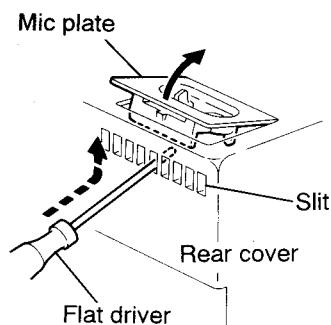

Fig. 7-2
3. Remove the two screws (**6**) retaining the front panel ass'y and main amplifier and power source P.C. board as shown in Fig. 7-2.